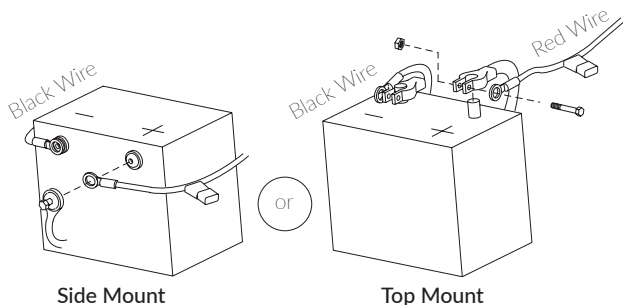

Figure 4-7
8. Attach the black wire first to the negative terminal and red wire last to the positive terminal on the battery. **See Figure 4-7.**